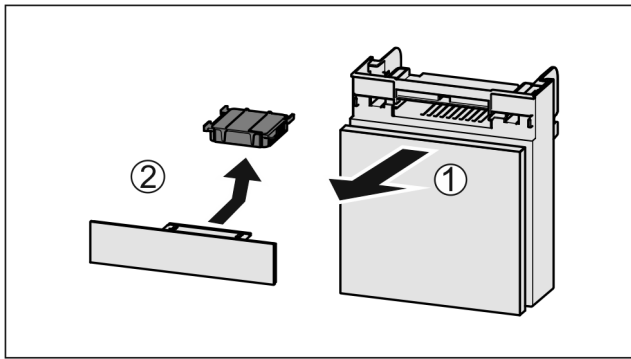

Fig. 156
- ▶ Pull out the compartment Fig. 156 (1).
- ▶ Remove the carbon filter Fig. 156 (2).